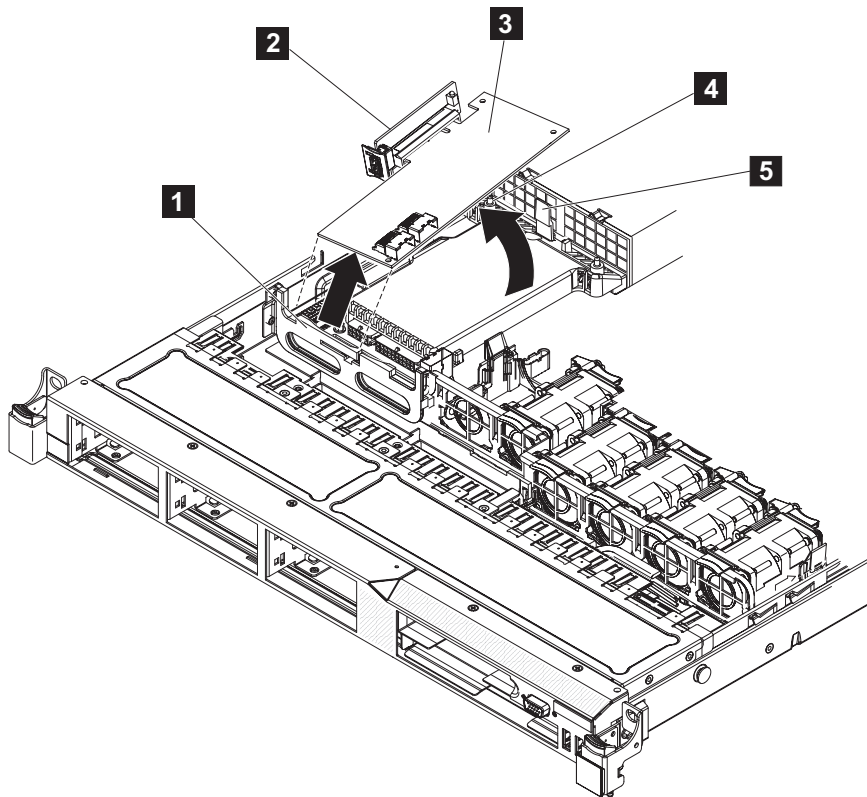

Figure 203. Disengaging the disk-controller front-retention bracket and removing the riser assembly and disk controller
11. Pull up on the disk controller (**3** in Figure 203 on page 219) until the disk-controller and USB riser-card assembly (**2**) disengages from the connector on the system board.